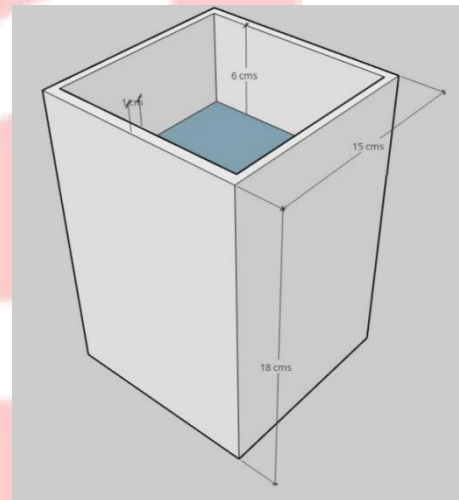

Figure 4B: high-rise House
- Dimension of high-rise House is 15 x 15 x 18 cms as shown in Figure 4B (if the Thermocol sheets of required dimensions are not available then the teams may cut or join the available sheets on their own to build the high-rise House of the mentioned proportions).